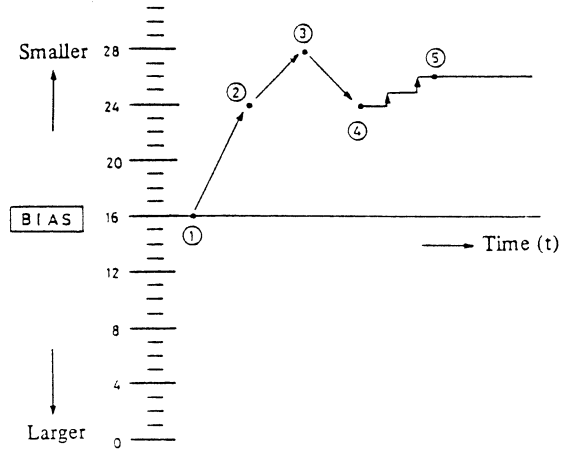
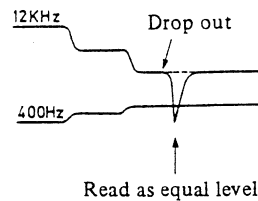
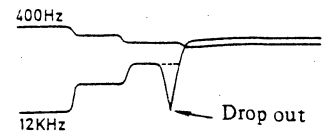

Fig. 2 Bias adjustment method
Fig. 3 Example of misoperation caused by drop out
Fig. 4 Example where effect of drop out is avoided
First the bias is set to step 16 which is in the center of the bias range shown in Figure 2. Then the 400Hz/12kHz mixed signal is subjected to a comparison operation to see which component is larger. If the 12kHz signal is larger, then the bias level is too small. If the 400Hz signal is larger, on the other hand, the bias level is too large. In the example shown in Figure 2, the bias level at step 16 is too large, so the bias is reduced by  $\frac{1}{4}$  of the total range (8 steps) to position (2) where the 400Hz and 12kHz components are again compared. If the 400Hz signal is still larger than the 12kHz signal, the bias level is further reduced by  $\frac{1}{4}$  of the total (4 steps) (3) and the components then compared again. This procedure is used for rough adjustment of the optimum bias. If at this stage, the 12kHz signal is now found to be greater than the 400Hz signal, the optimum bias is known to exist between steps 24 and 28. The operation is now switched to fine adjustment – the bias is increased by  $\frac{1}{4}$  and then reduced one step at a time from step 24. The step where the component signal size relationship is switched from  $400 > 12k$  to  $12k > 400$  is taken as the optimum bias (5), and the bias is set at this level. This fine adjustment operation proceeds only from greater to lower bias levels in order to avoid misoperation due to possible drop outs. The effects of a drop out on the bias adjustment when the bias is changed from a smaller to a larger level is indicated in Figure 3, while the reverse case is indicated in Figure 4.